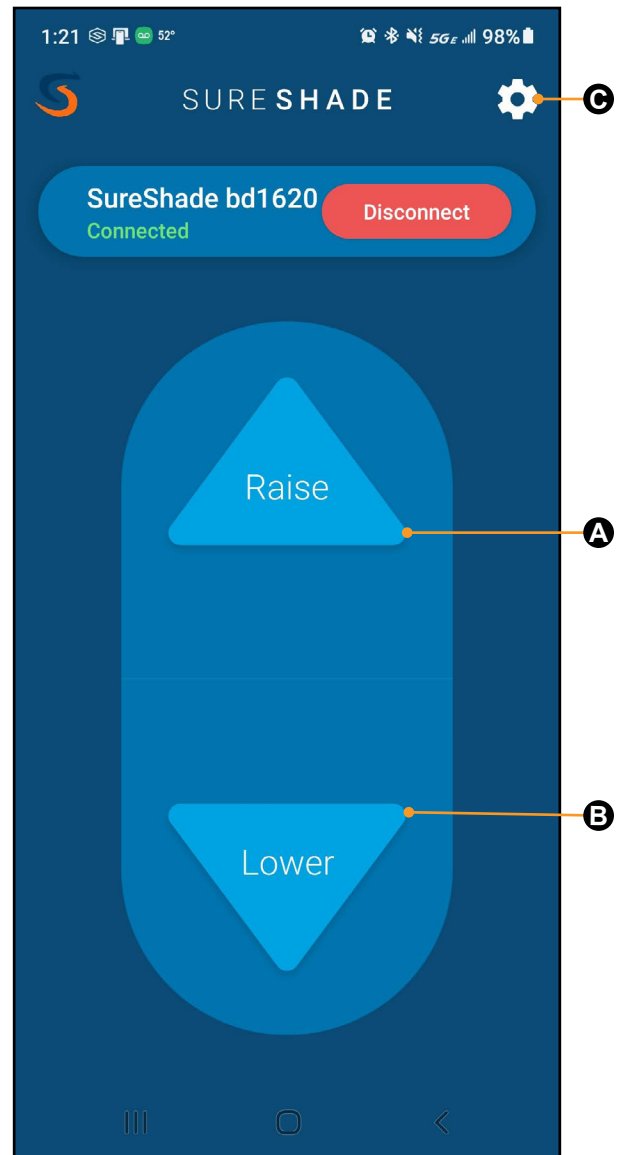
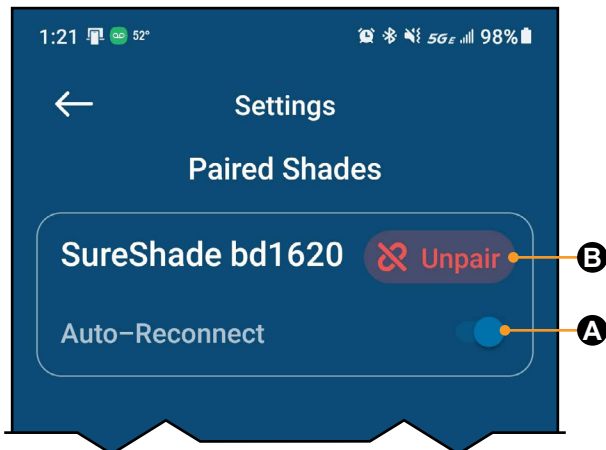

Fig.72
Fig.73
J. The controller and the paired smart device are now connected and the **Raise** and **Lower** buttons are now active (Fig.72).
A. With the app open to the **Raise** and **Lower** button screen (Fig.72), tap the gear icon (Fig.72C) to access the Settings screen (Fig.73).